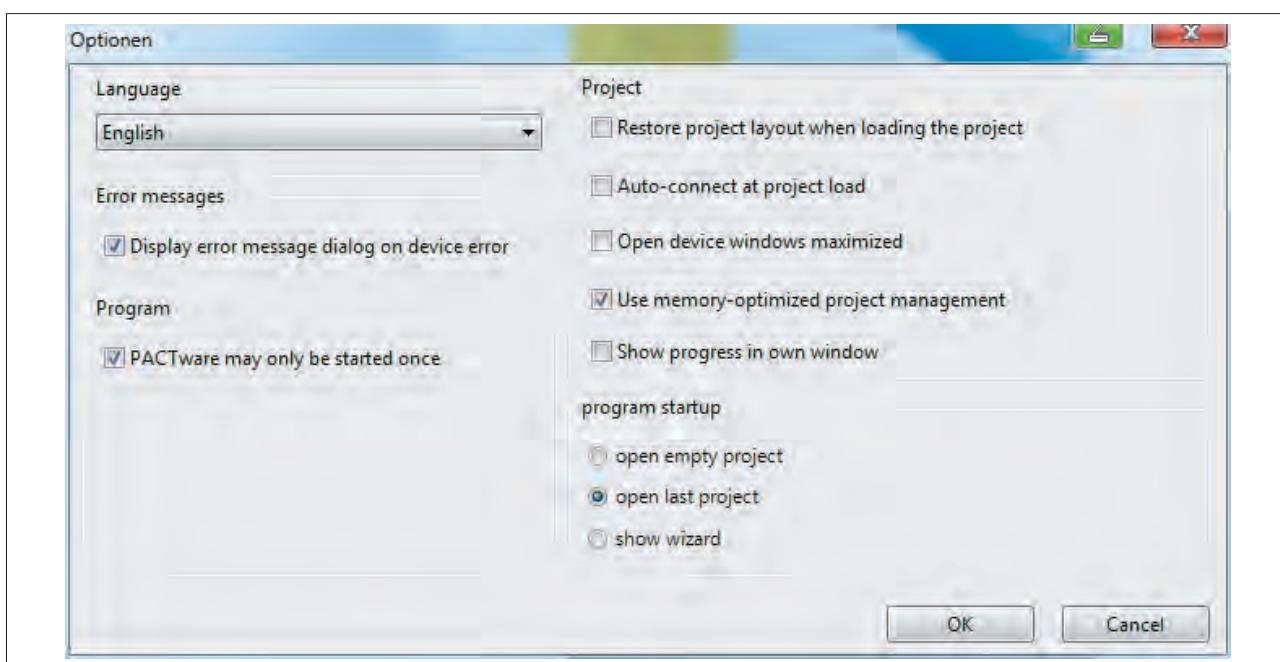

Figure 17: PACTware options
**!** You can determine under PACTware "Tools / Options," in the "Project" area whether the last project should be opened when the program starts (see "Figure 17: PACTware options").